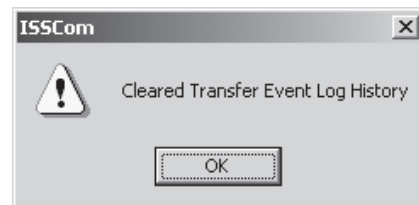

Figure 3-30 Transfer Event Log History Cleared Confirmation Screen
- Select **YES**, ISScom will respond with the Transfer Event Log Clear History confirmation Screen (Figure 3-30).